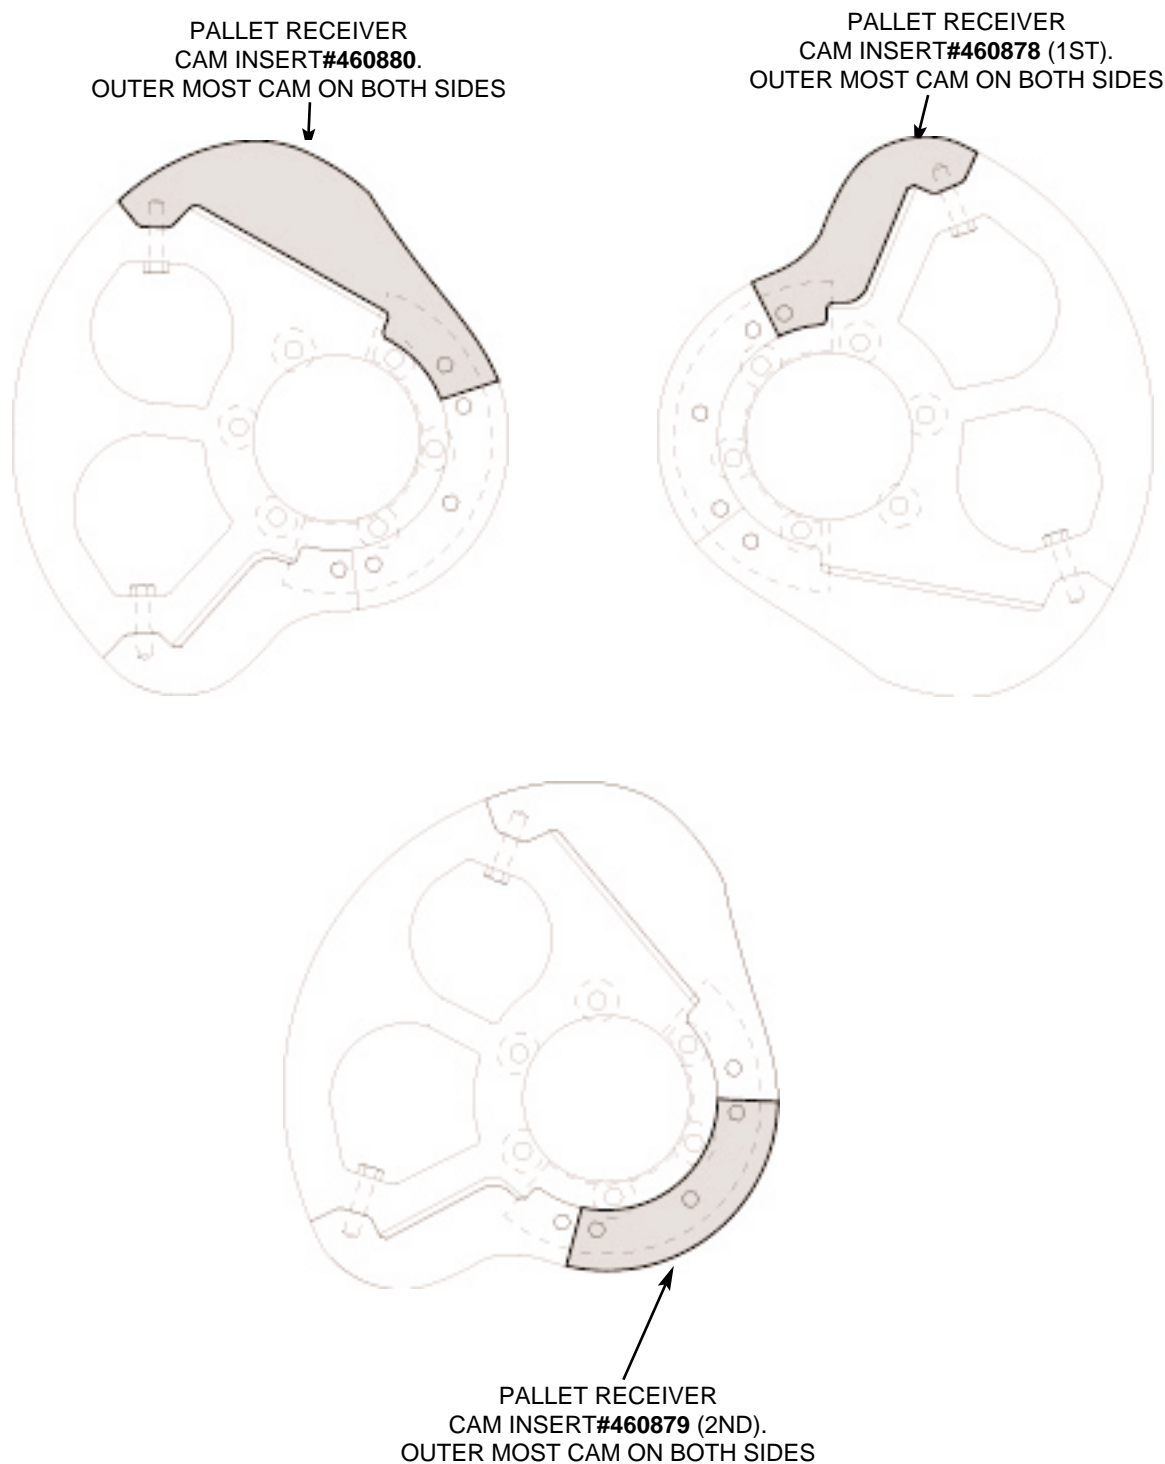

Figure 18.47 PALLET RECEIVER CAM INSERTS.
18.3.5 While at first stop, install pallet receiver cam insert **#460880**. **Do not** change the other pallet receiver cam inserts at this time (see figure 18.47).
18.3.6 Run machine to second stop. Install pallet receiver cam inserts **#460878** (1st) and **#460879** (2nd). See figure 18.47.